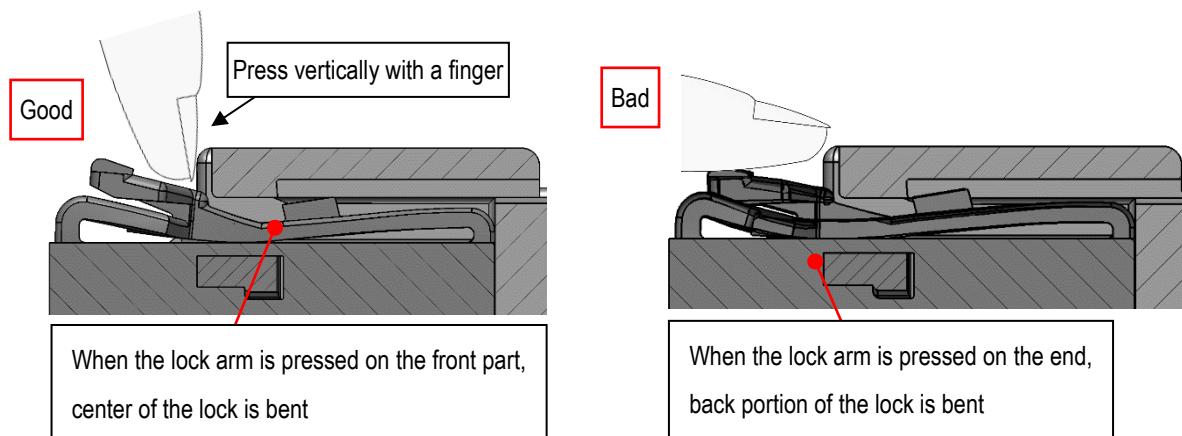

Fig. 47 ロック部構造/ Mechanism of the lock
- ② Hold and pull the female connector (not the wires), when disengaging the female connectors.
- ③ If there is any damage or deformation, do not use the damaged item. Replace the item with a new one.
- ④ Pressing down the end of the lock arm may not release the lock fully (See Fig. 47).